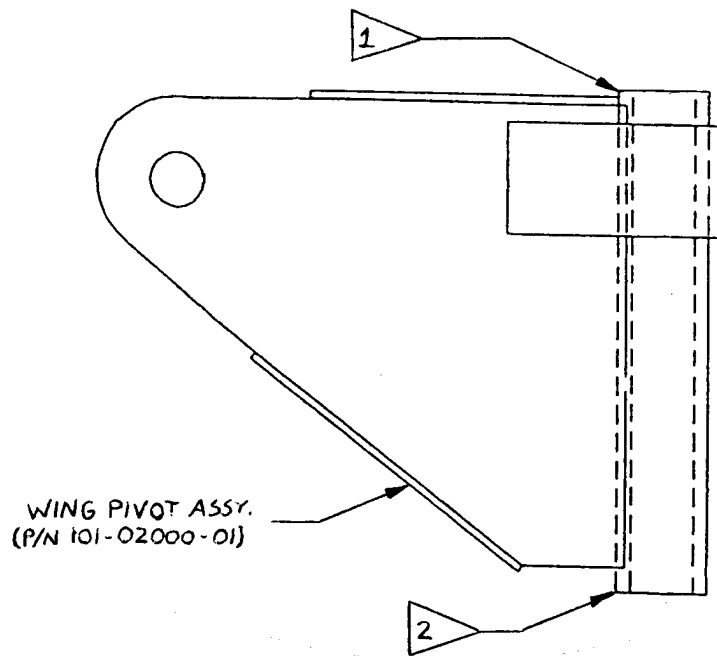

Figure 1
Several builders have taken steps to adjust the incidence angle of the wing on one or both sides by grinding down the wing pivot assemblies (P/N 101-02000-01) at the locations indicated by Flags 1 and 2 in Figure 1 (on the following page) and inserting washers either above or below the pivot, thereby adjusting the trailing edge of the wing up or down to bring the two sides into congruence. This modification has the desired aerodynamic effect, but it can give rise to serious structural concerns. The pivot bolt is designed to handle **shear loads only, not bending loads**. Because washers cannot carry shear loads, insertion of washers between the pivot assembly and the cage lugs has the effect of putting the pivot bolt in bending. For this reason, **a maximum of one standard, .063"-thick AN960 steel washer is permissible between the top of the pivot and the upper cage lug (at Flag 1) or a maximum of two such washers is permissible between the bottom of the pivot and the lower cage lug (at Flag 2).**
- B)** If you measure a difference in incidence angle from left to right of **more than 1.0°**, we **recommend** that you first try to relieve the problem by modifying one or both pivot assemblies and inserting a washer or washers up to the permissible number specified on Page 1. Modify the pivot(s) by grinding away the tube portion of the assembly in the location(s) indicated by Flag 1 and/or Flag 2 in Figure 1. As the figure shows, there is more excess tube material at the bottom (Flag 2) than at the top (Flag 1), so we recommend grinding the bottom first and only grinding the top if necessary to install the maximum number of permissible washers.